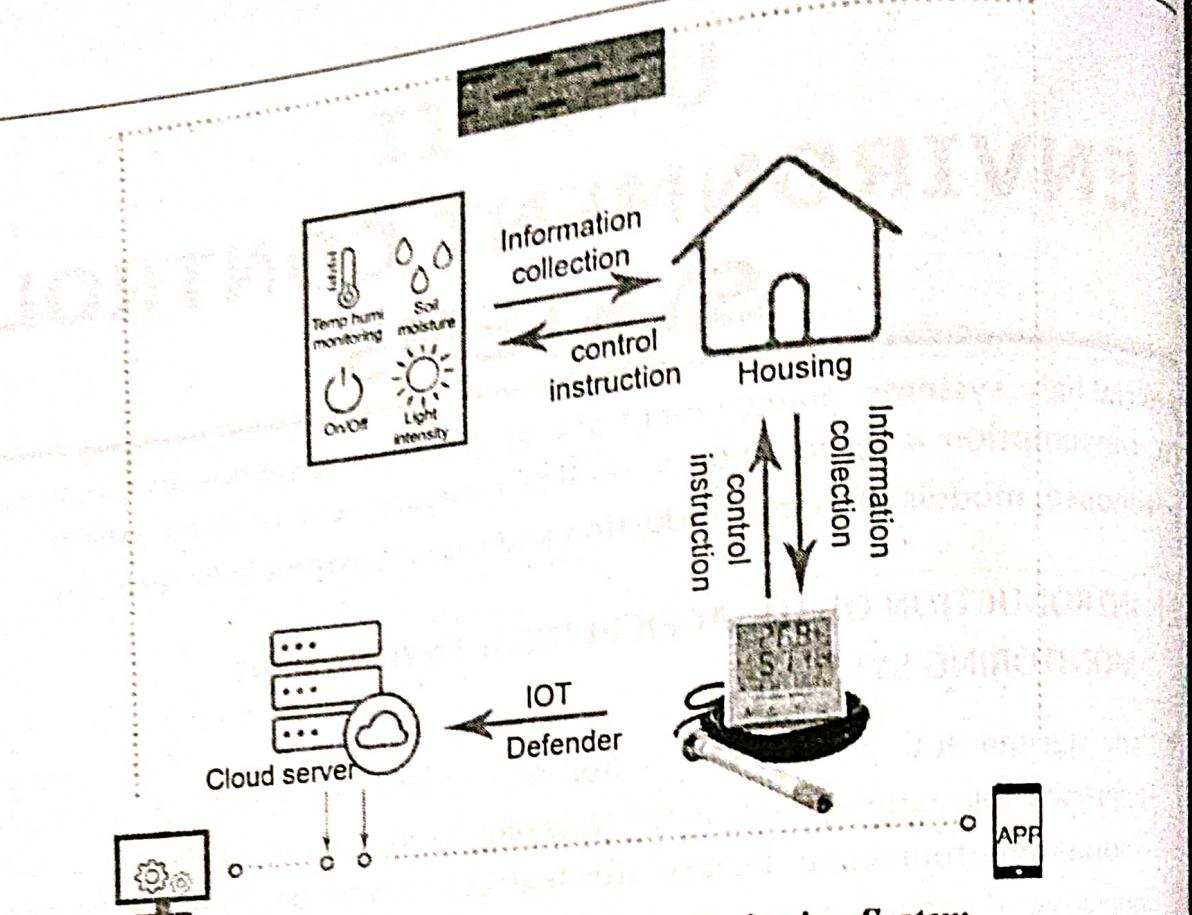

Fig. 2.1. Agricultural Environment Monitoring System
- They also measure various soil parameters including soil temperature and humidity, nitrogen, phosphorus, potassium levels, and pH. Figure 2.1 shows the process of data collection for environmental monitoring system.